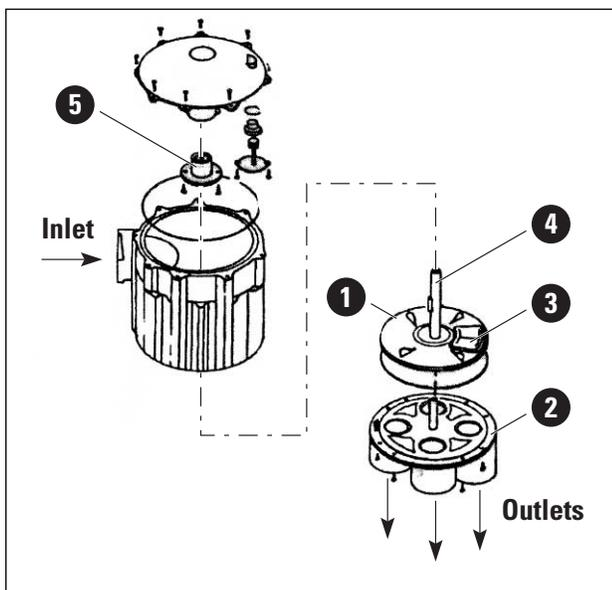

Figure 1:
The valve itself has only a few moving parts, requires no electricity, and alternates automatically each cycle. Refer to Figure 1 for the following valve operation description. The flow of the incoming effluent forces the rubber flap disk ① to seat against the valve bottom ②. The opening ③ in the rubber flap disk aligns with an opening in the valve bottom to allow flow to only one valve outlet. The stem ④ houses a stainless steel spring which pushes the rubber flap disk away from the valve bottom after the flow of effluent stops. The stem acts as a cam follower and rotates the rubber flap disk as the stem is raised and lowered through the cam ⑤. The force from the flow of effluent pushes the stem down through the cam and the stainless steel spring pushes the stem back up through the cam when the flow of effluent stops. Each linear motion of the stem allows the rubber flap disk to rotate half the distance necessary to reach the next outlet. When there is no flow, the rubber flap disk is in the "up" position and is not seated against the valve bottom.